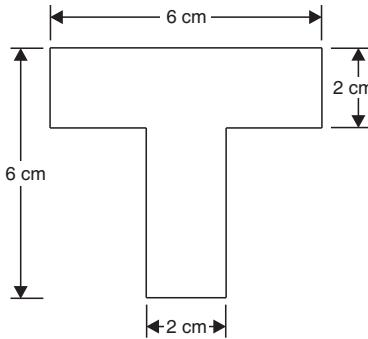

Fig. 8.19
**Example 8.2.** Calculate the moment of inertia about horizontal and vertical gravity axes ( $I_{xx}$  and  $I_{yy}$ ) of the section shown in Fig. 8.19.